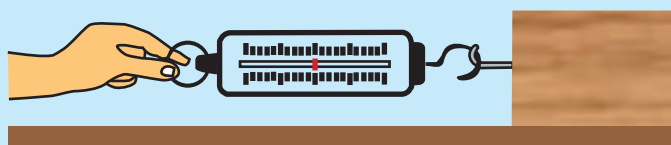

Figure 4.3
- Connect the spring balance to the hook as shown in figure 4.3. Pull the spring balance, while keeping it horizontally, till the block just starts to move. Take the reading of the spring balance. It is the magnitude of the force exerted by your hand on the wooden block.